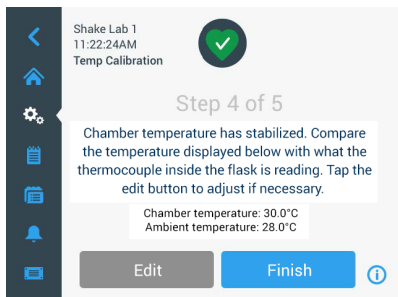

Figure 120: Calibration: Chamber successfully stabilized to calibration temperature
A stable state is indicated by the message **Chamber temperature has stabilized**, as shown in Figure 120 below.
- » As soon as the screen shown in Figure 120 is shown, compare the temperature reading of your thermocouple regularly. If you deem the temperature stable you can either tap the **Edit** button to correct or tap the **Finish** button to complete the calibration process.